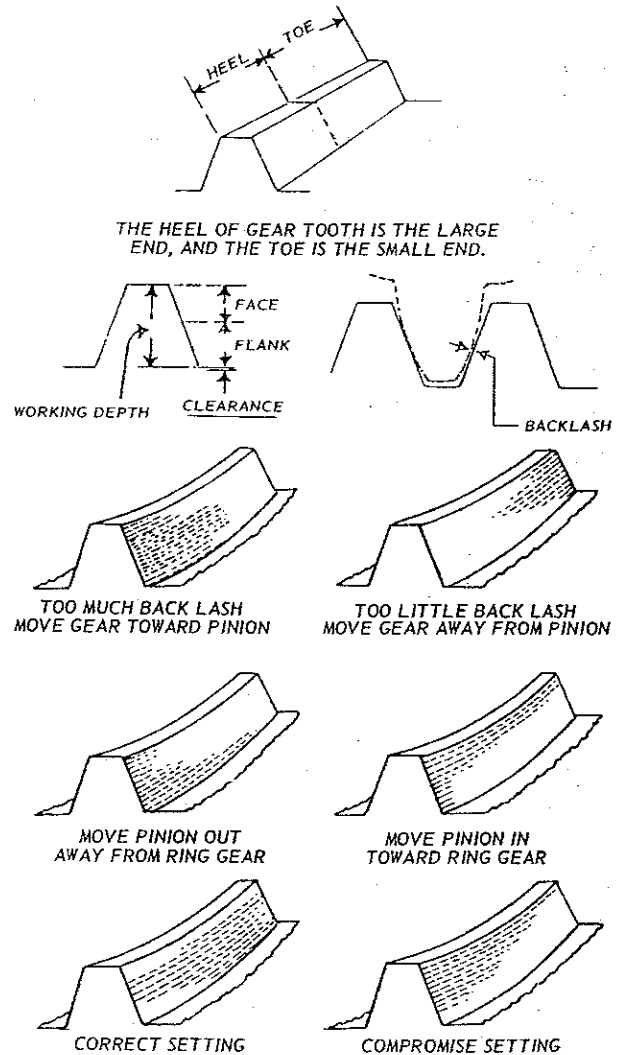

FIG. N-30—GEAR TOOTH CONTACT
n. In order to assist in determining whether the gears are properly adjusted, paint the bevel gear teeth with red lead or prussion blue and turn the bevel gear so the pinion will make an impression on the teeth. The correct procedure to follow in the event of an unsatisfactory tooth contact is shown in Fig. N-30.